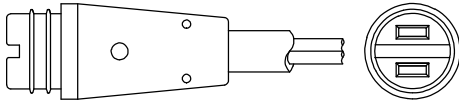
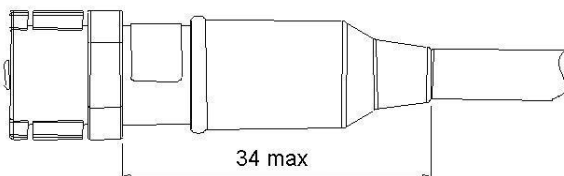

Fig. 6
Fig. 7
- Cable and Rubber protection as accessory for ST11 F (see Fig. 6 and Fig. 7).
- Connection cable (Fig. 6)
- Rubber protection (Fig. 7)